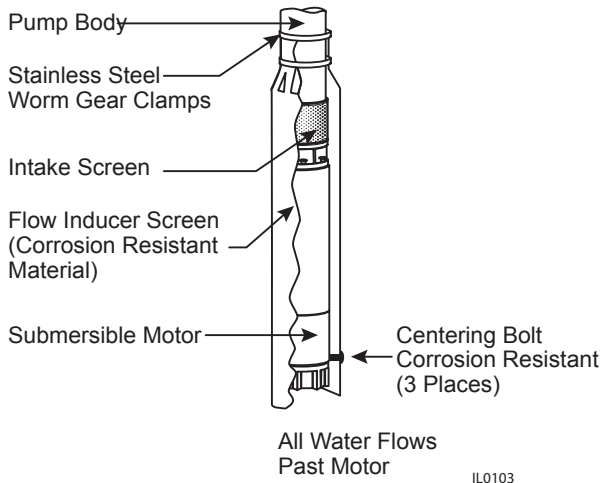

Figure 12
3. A flow inducer sleeve is a tube over the motor, closed off above the pump intake and extended to the bottom of the motor or lower. The sleeve material is corrosion resistant metal or heavy plastic (See Figure 12).